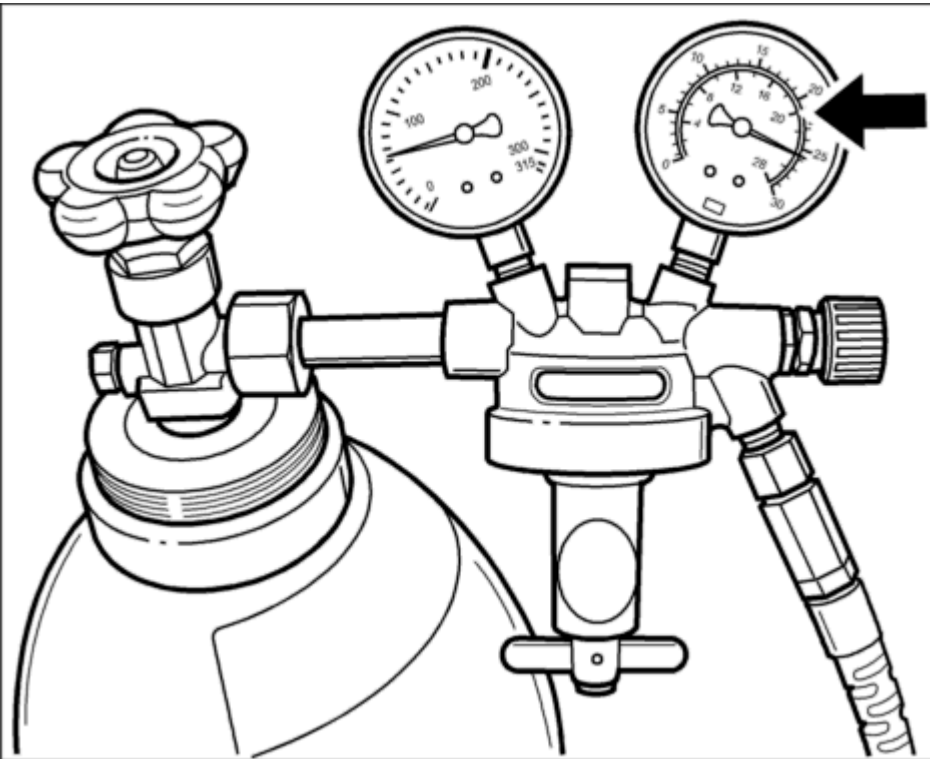

Fig. 7: Compressed gas bottle with pressure gauge unit 00000
5. Set the pressure gauge unit (flow limiter) to approx. 20 l/min -**arrow**-. See **Fig. 7**.